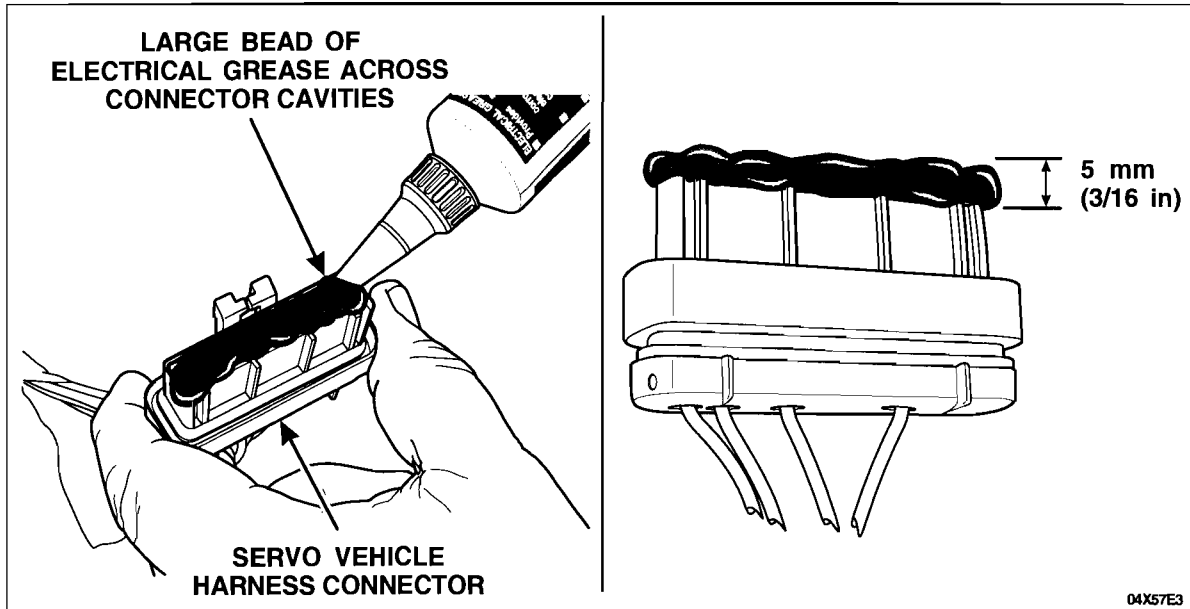

FIGURE 7
11. Apply a 5 mm (3/16 in) high bead of Motorcraft Electrical Grease II XG-15-A across the entire width and length of the servo vehicle harness connector. See Figure 7.